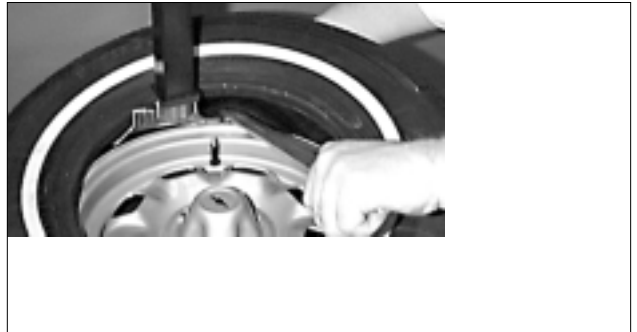

Figure 12 - Guide Lower Bead Over Tool Head
13. Lift and hold the tire at an angle so that the lower bead is resting in the drop center directly across from the demount head, and is loose below the demount head (Figure 11). Insert the smooth curved end of the bead lifting tool down over the forward end of the mount/demount tool and below the lower bead. Lift the bead up and over the knob on the demount head (Figure 12).